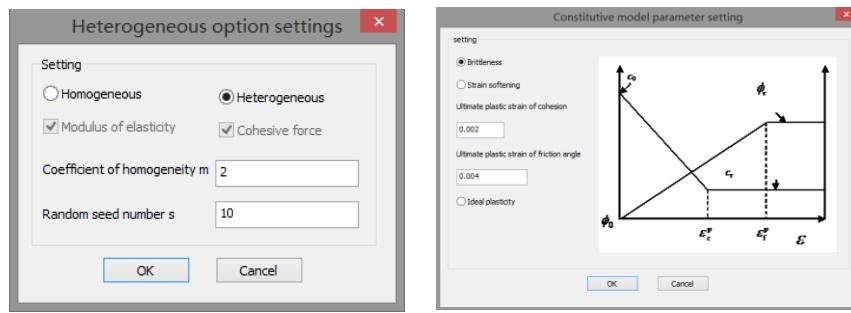

Figure 34 Material definition
- (1) Set the working directory (e.g., D:\CASRock\0.1-0.05-2d);
- (2) Import the model grid file (0.1-0.05-2d.txt);
- (3) Define the material parameters (Figure 34);